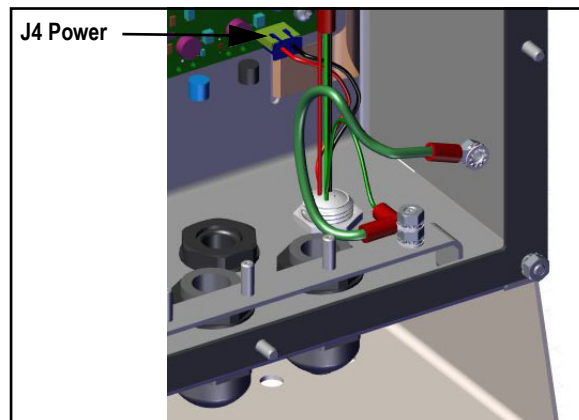

Figure 2-9. Connect DC Wiring
**NOTE:** The DC power cable should be attached to connector J4 (Figure 2-9 on page 24).
4. Run the other two wires up the side of the indicator and connect the three pin plug (PN 15888) to the power supply board as shown in Figure 2-9 and Table 2-6 on page 24.